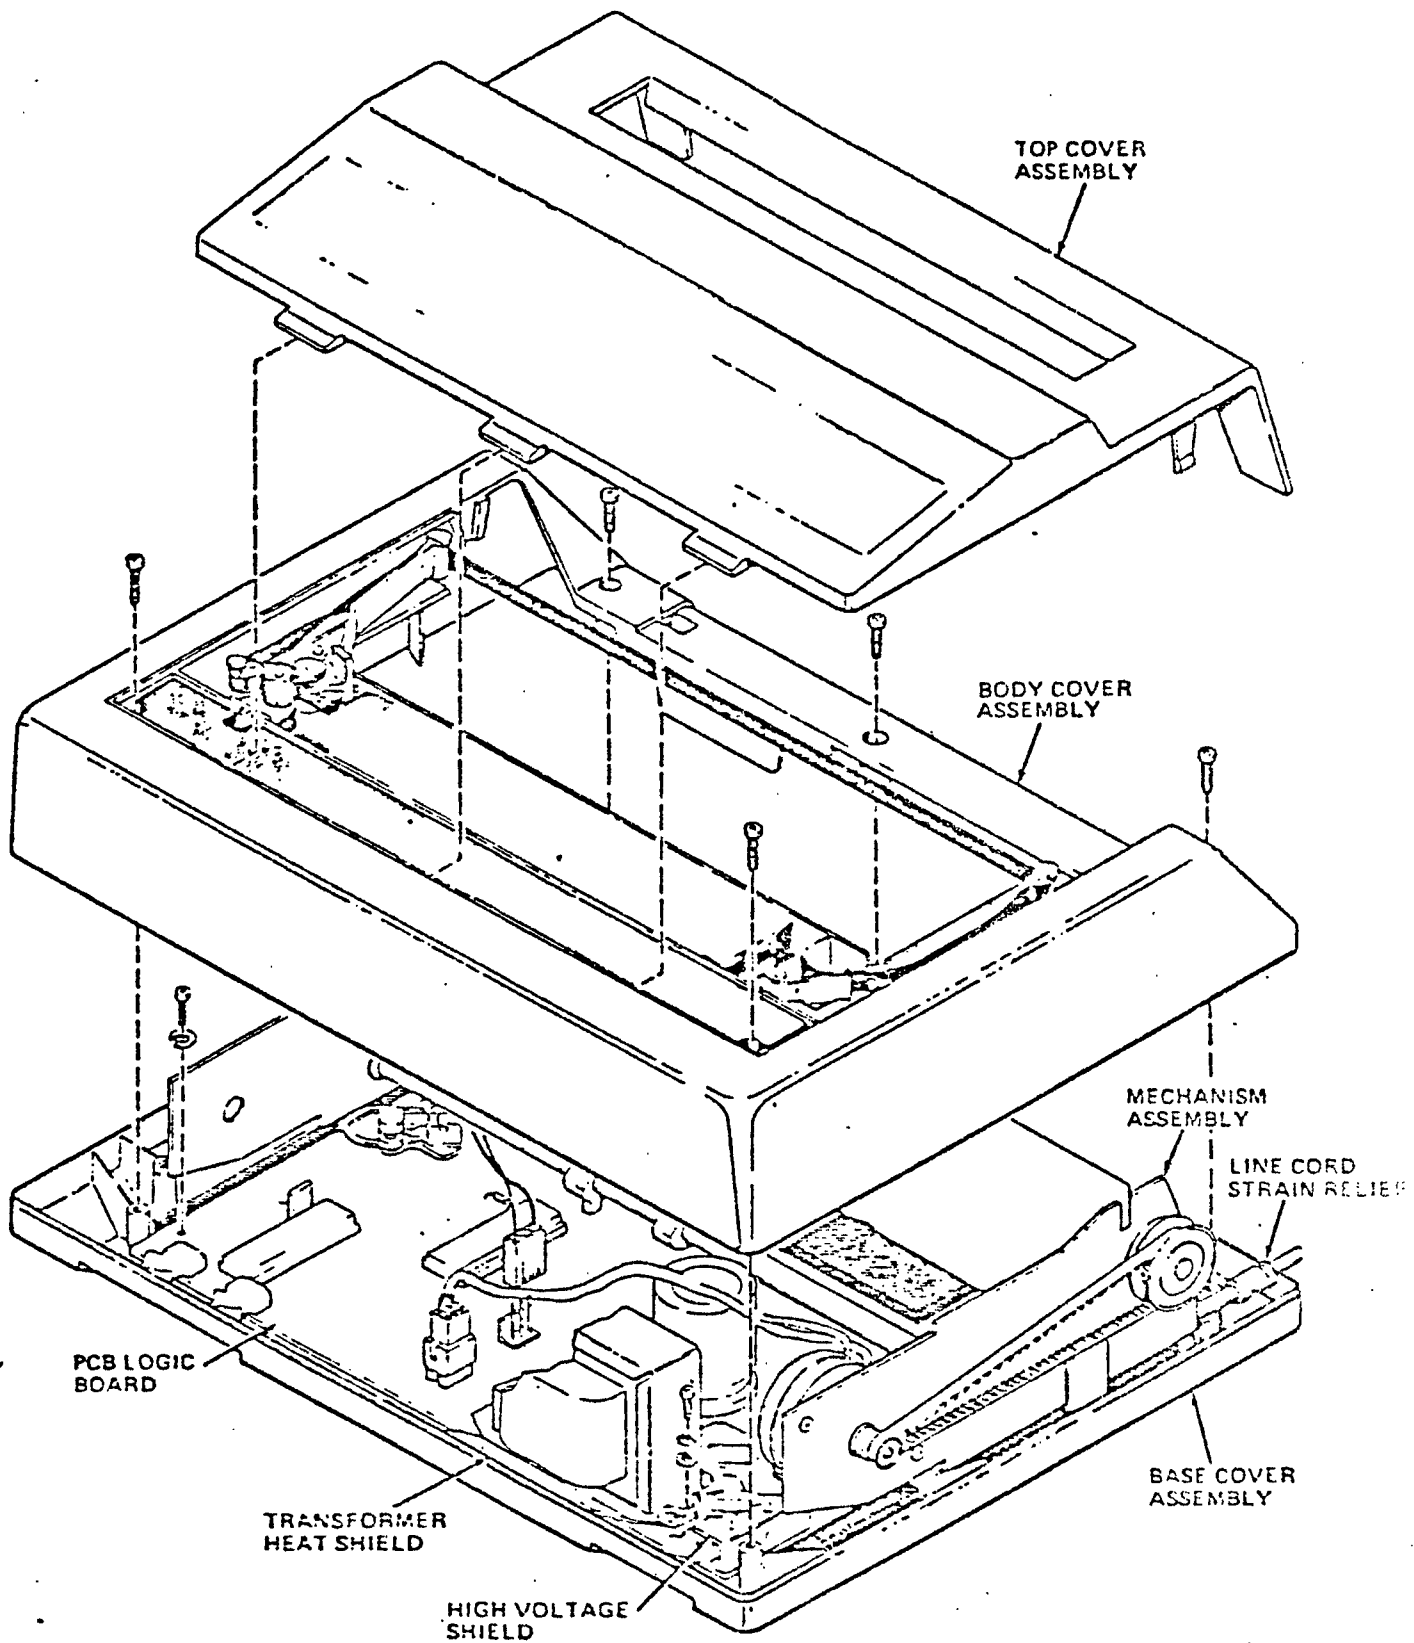

Figure 5-5. BASE COVER ASSEMBLY REPLACEMENT
5.6 BASE COVER ASSEMBLY (Reference Figure 5-5).